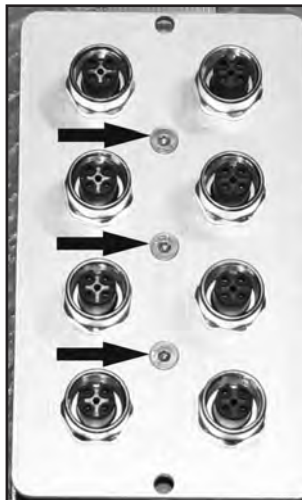

Figure 9. Module front plate retaining screws
10. Remove the three front plate retaining screws (figure 9) and remove the front aluminium plate.
13. On the new 4 - 20mA input plate assembly, remove the three countersunk screws on the front plate and separate the plate from the PCB, see figure 9 & 10.